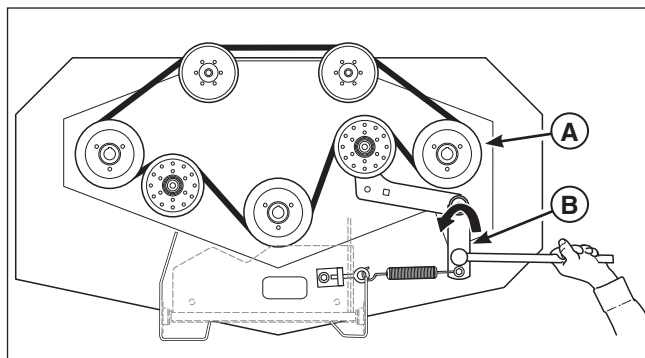
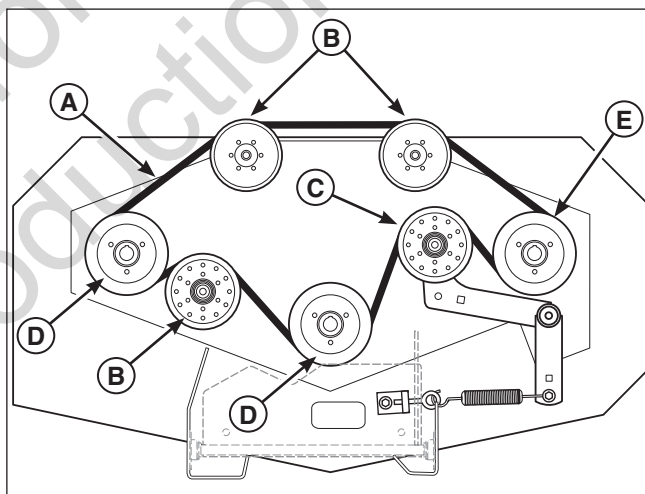

Figure 45. Mower Deck Belt Removal
Figure 46. Mower Deck Belt Routing
5. Using a 1/2" breaker bar, place the square end in the square hole located in the end of the idler arm (A, Figure 45). Carefully rotate the breaker bar COUNTER-CLOCKWISE, which will relieve the tension on the belt exerted from the idler arm.
6. Slide the mower deck drive belt over the edge of the left spindle pulley (B). Carefully release the tension on the breaker bar.
8. See Figure 46. Install the mower deck drive belt (A, Figure 46) on the stationary idler pulleys (B), the spring-loaded idler pulley (C) and all of the spindle pulleys (D) except for the left spindle pulley (E). Carefully rotate the breaker bar COUNTER-CLOCKWISE and install the belt on the left spindle pulley. Carefully release the tension on the breaker bar.